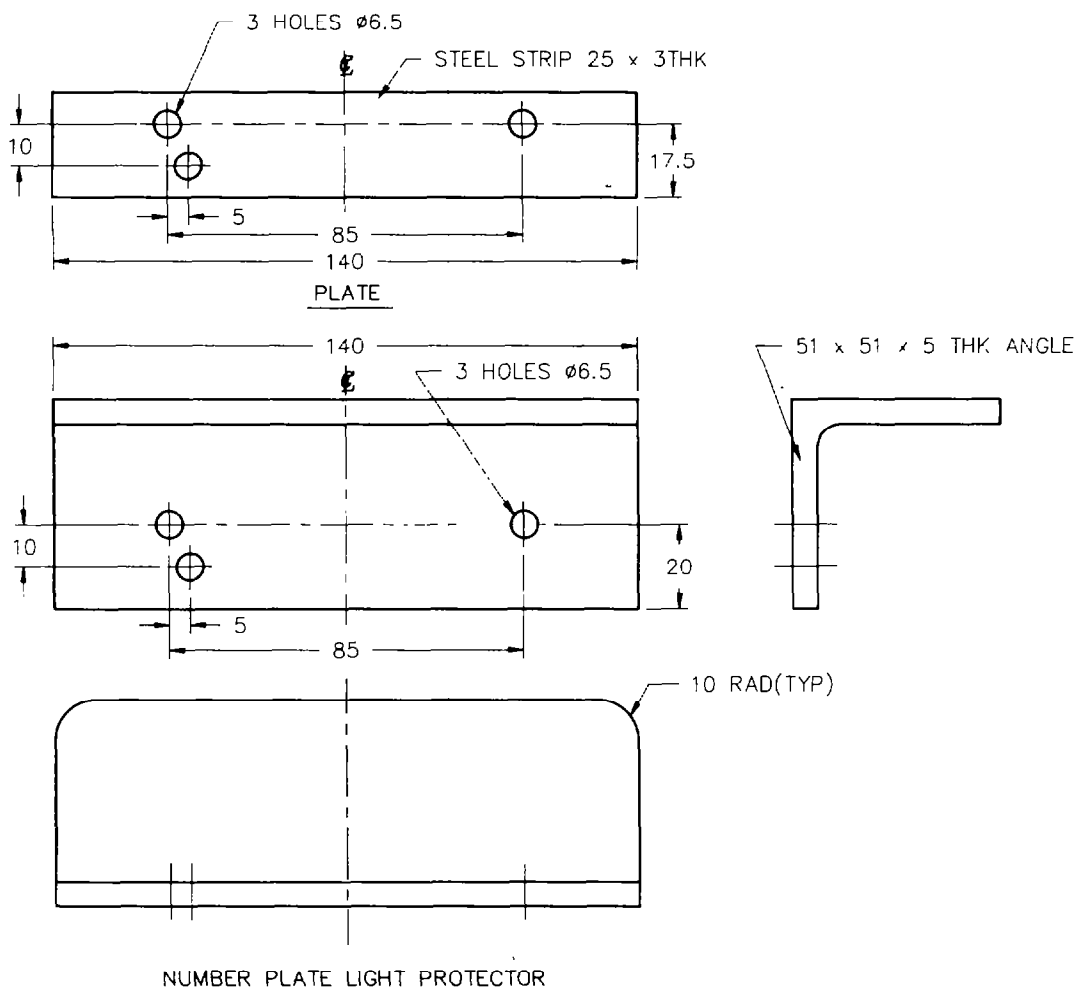

FIG 1
- Manufacture the protector plate and backing strip (Item 1 and 2 from Table 1) as shown in Fig 1.